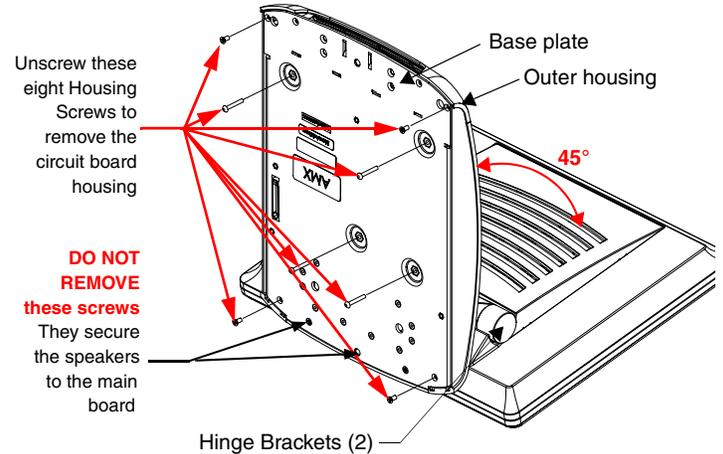

FIG. 2 Location of the attachment screws underneath an NXT panel base
1. Carefully detach all connectors from the rear of the touch panel and then gently place the touch panel LCD facedown onto a soft cloth to expose the under-side of the base (FIG. 2). This step helps prevent scratching of the LCD.
3. While holding the outer housing and base plate at an angle (to prevent it from sliding), use a grounded Phillips-head screwdriver to remove the eight Housing Screws (FIG. 2).
4. Insert and secure the eight Housing Screws (using a grounded Phillips-head screwdriver) into their respective locations (FIG. 2).